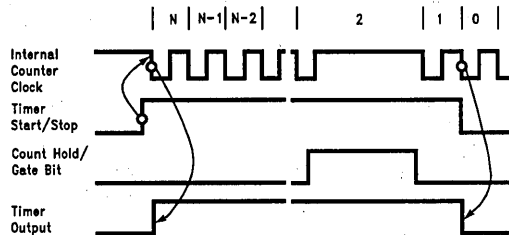

FIGURE 8. Typical Waveforms for Timer Mode 0 (MFO Output Programmed Active High)
input data registers are loaded into the timer. The output will stay high until the counter reaches zero. At zero the output is reset. The result is an output pulse whose duration is equal to the input clock period times the count value (N) loaded into the input data register. This is shown in *Figure 8*.